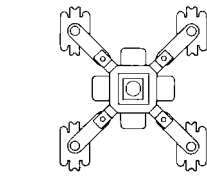

fig. 1
- all 4 wheel arms of dolly must be completely swung out and locked (see above illustration fig. 1).